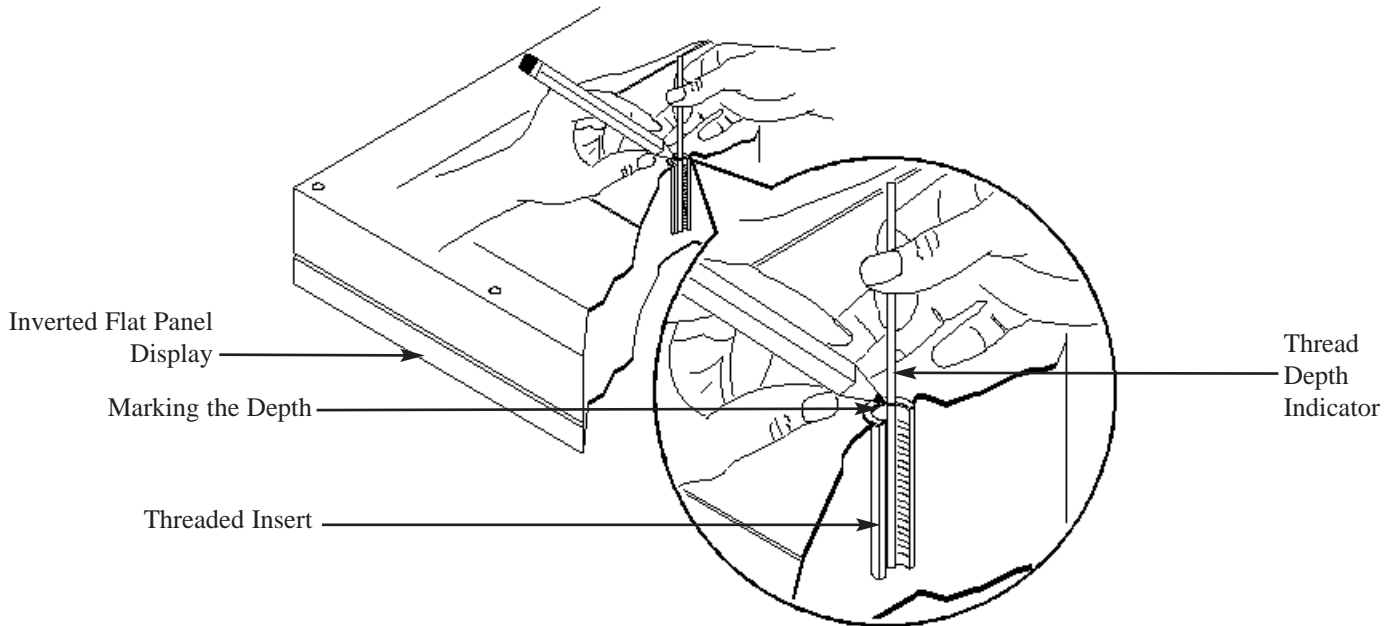

Figure 1
- Step 1. Insert the thread depth indicator (supplied) through the thread inserts found on the back of the flat panel to make sure the inserts measure the same full depth and mark it (Figure 1).